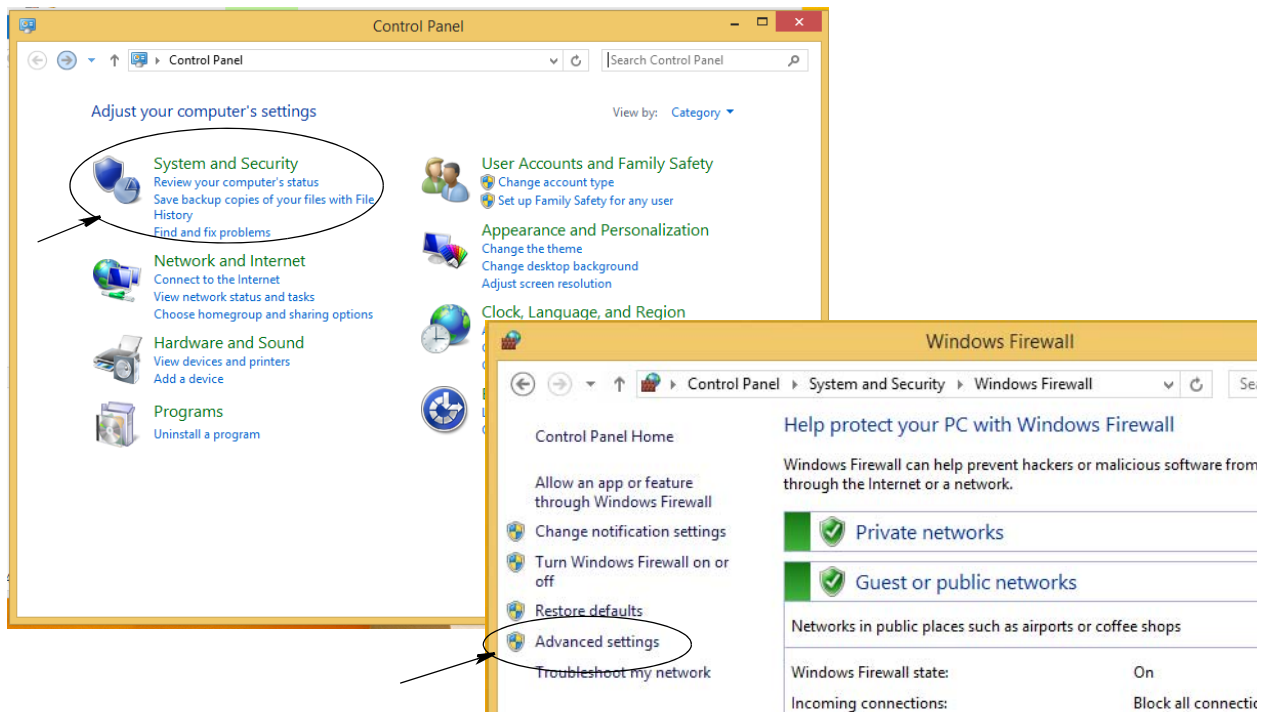

FIG. 40
2. Click on System and Security and find the Windows Firewall icon. Click the Advanced Settings link as shown in FIG. 40.